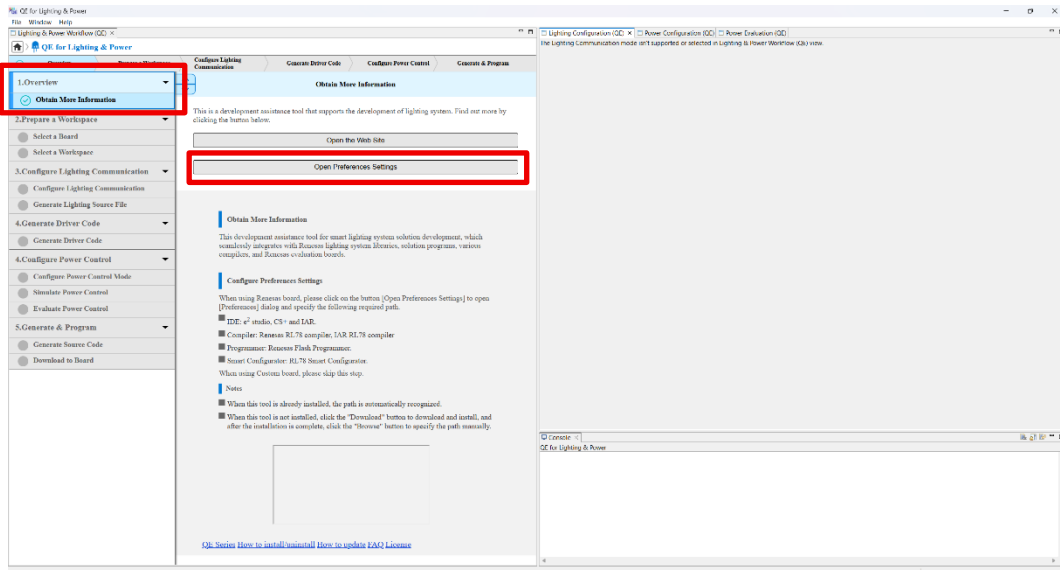

Figure 3.1 QE for Lightning & Power
- (1) In the QE for Lighting & Power window, click “Open Preferences Settings” (Figure 3.1).